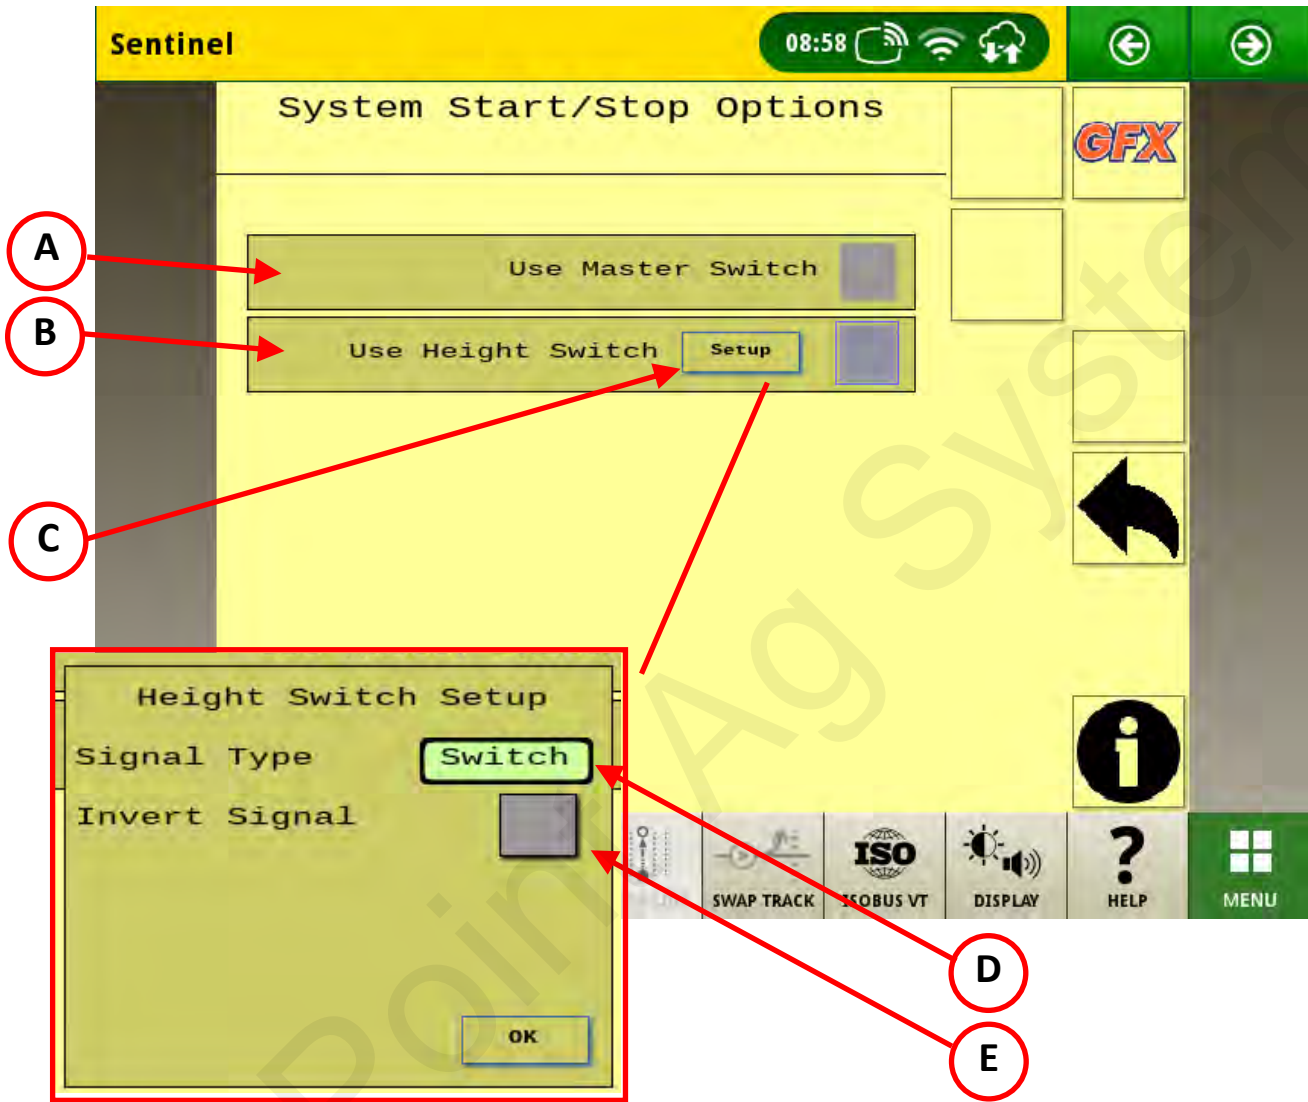

Figure 5.13:
- C) Master On/Off button—this will be GREEN when system is ON or down, or GREY when system is OFF or up. To change master switch options go to 'System start/stop options' page, see figure 5.13.